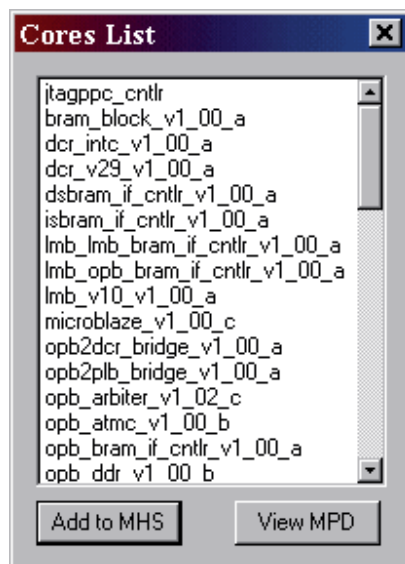

Figure 3-5.
- ❶ Double click on `system.mhs` in XPS to open it
- ❷ Examine the `mhs` file. Notice the section headers for the missing IP
- ❸ Close the `system.mhs` file
- ❹ Select **Project**→**Add Cores** to open the Cores List dialog. (see figure 3-5)